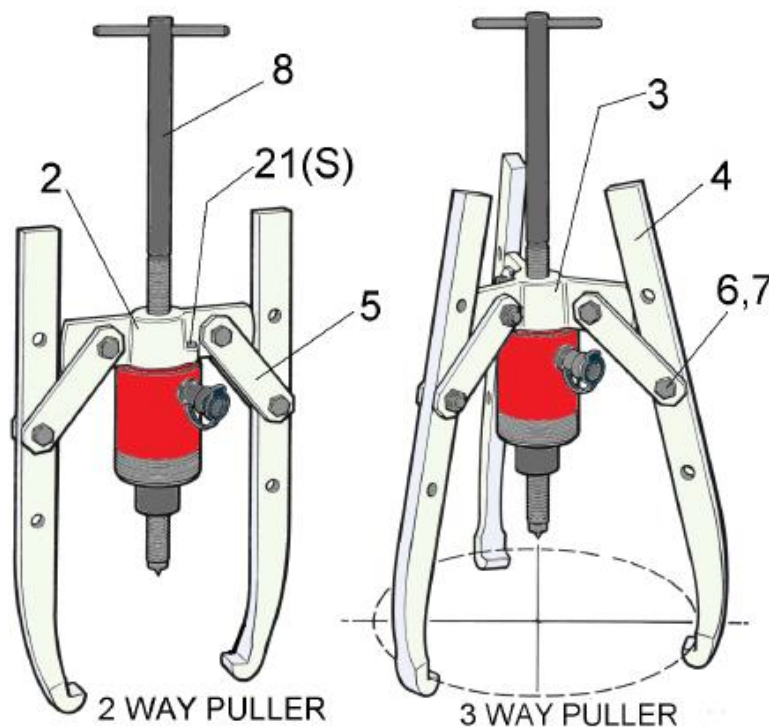

FIGURE 1
## 2 WAY PULLER and 3 WAY PULLER. Fig1.
Assemble legs (4) loosely to double or triple crosshead (2 or 3) as appropriate, using straps (5) bolts and nuts (6 and 7) as shown in fig.1. N.B On the 10 tonne models the crosshead is dual purpose. Use the holes as near as possible to the hooks on the legs as the work-piece will allow.